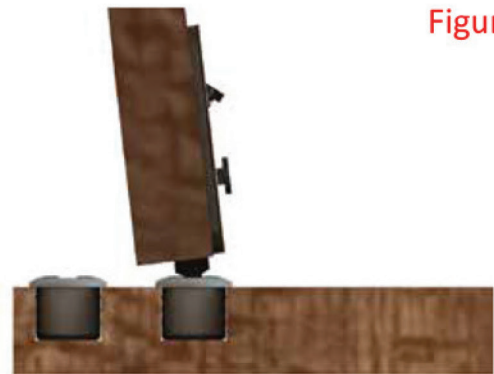

Figure 10.
2. Softly push the inner door/s onto the bottom track as guided in **Figure 10**.